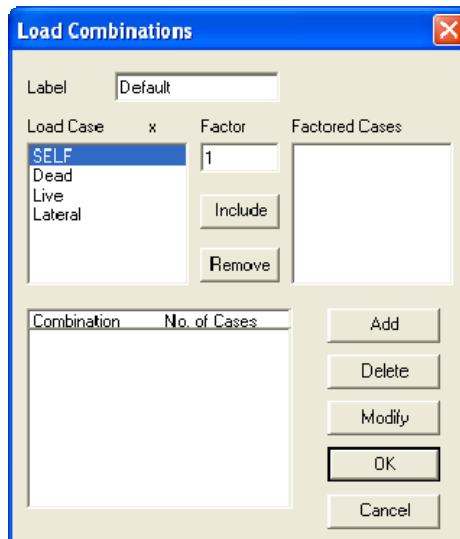

Figure 3-35 Load Combinations dialog box
- From the Analyze menu, select Load Combinations. The dialog box of Figure 3-35 appears.